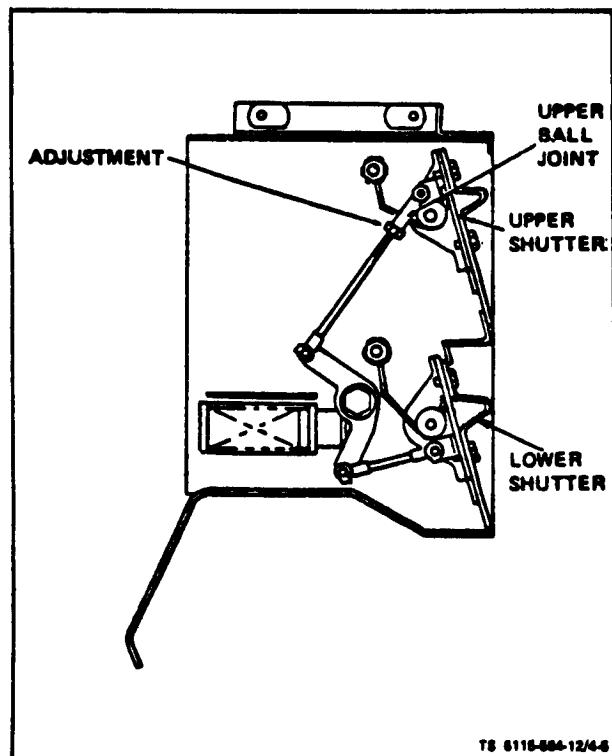

Figure 4-5. Adjusting Shutters
(1) Shutters (see figure 4-5). Disconnect ball joint from upper shutter. Adjust ball joint until upper shutter closes tightly on lower shutter when lower shutter is held closed. Re-attach ball joint to upper shutter.